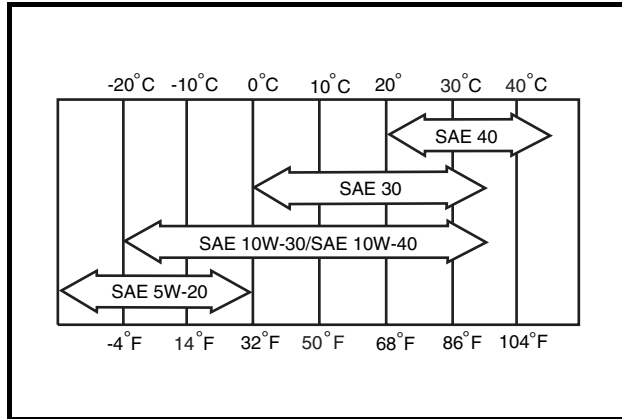

Figure 31 Oil Viscosity Chart
13. Remove the dipstick and add engine oil into the dipstick port. Use a funnel or pour spout to direct the oil into the dipstick port. With filter change, the engine requires 38 ounces (1.12 liters) of oil per change. Refer to oil viscosity guidelines for selection of oil grade (**Figure 31**). Replace the dipstick.
Choose the viscosity according to the temperature as indicated by the oil viscosity chart (**Figure 31**). **See following NOTE.**